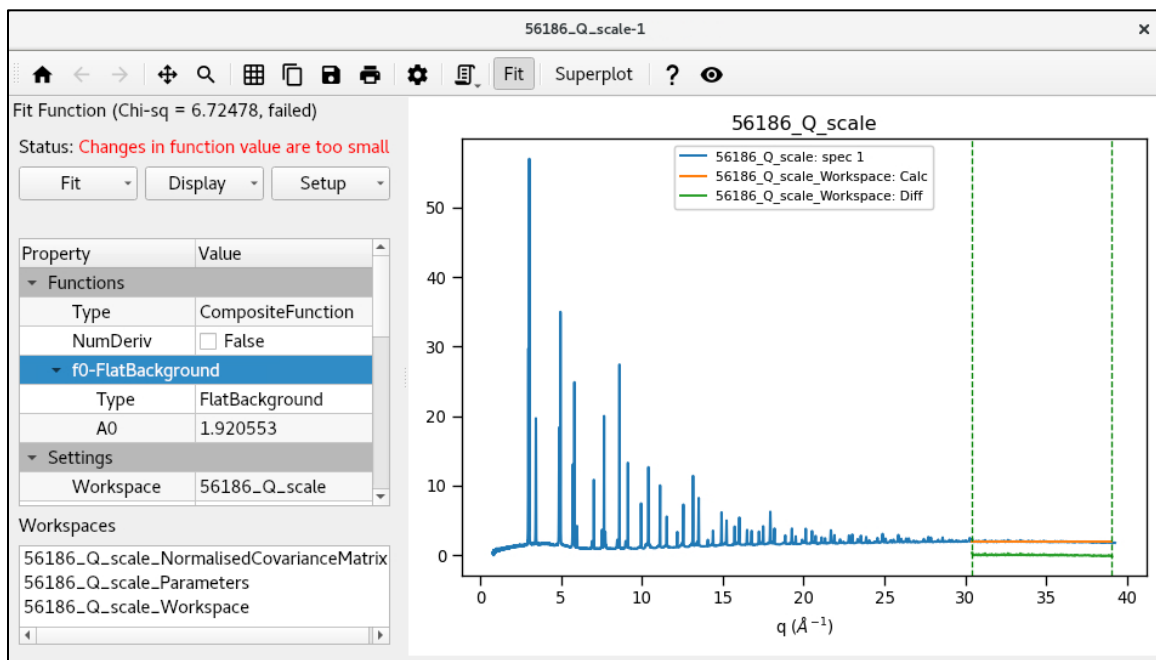

Figure 20. Fit Function sidebar on spectrum plot, showing the FlatBackground fit.
- 5.5. On the top of the plot panel, press the Fit button. The Fit Function sidebar will open (Figure 20). Right-click on the plot and select *Add background*, selecting a *FlatBackground* function from the resulting dialog box. Drag the vertical green dotted lines to set the fitting range to 30 to 50 Å⁻¹. Press the Fit button and select *Fit* to fit the background.